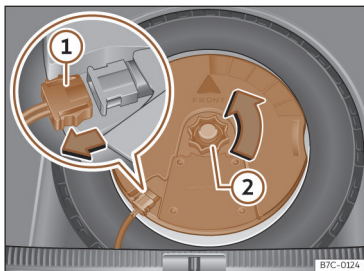

Fig. 234 In the luggage compartment: remove the subwoofer.
- Disconnect the *subwoofer*»» **Fig. 234** ① speaker cable.
- Turn the securing wheel in an anti-clockwise direction»» **Fig. 234** ②.